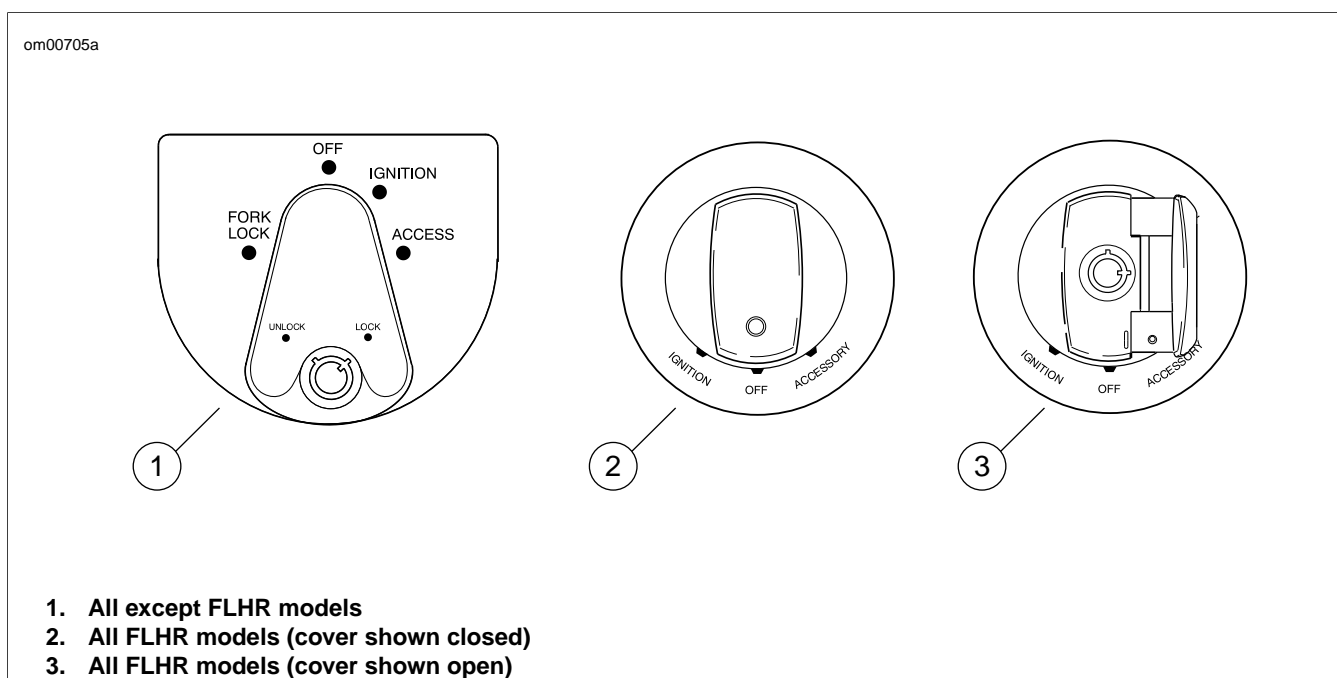

Figure 3-7. Ignition Switch: Touring Models
- See Figure 3-7. Key ON means the ignition switch is turned to **IGNITION** and the engine stop switch is set to **RUN** (although the engine is **not** running).